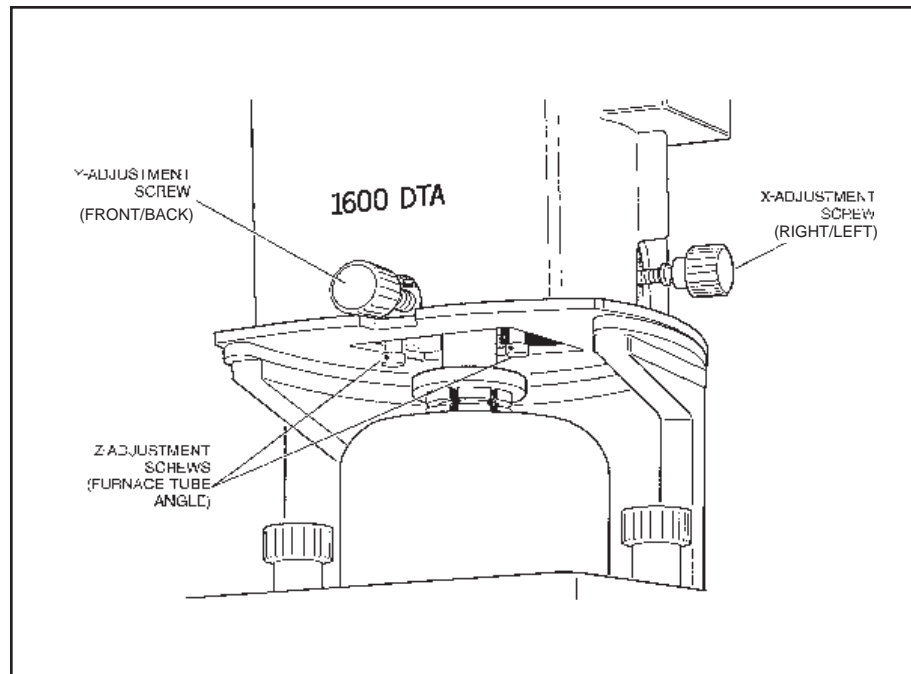

Figure 2.20
3. If the furnace tube is not centered within the furnace, turn the *x* and *y* screws (see Figure 2.20) in the appropriate direction (according to Table 2.2) to center the furnace around the furnace tube.